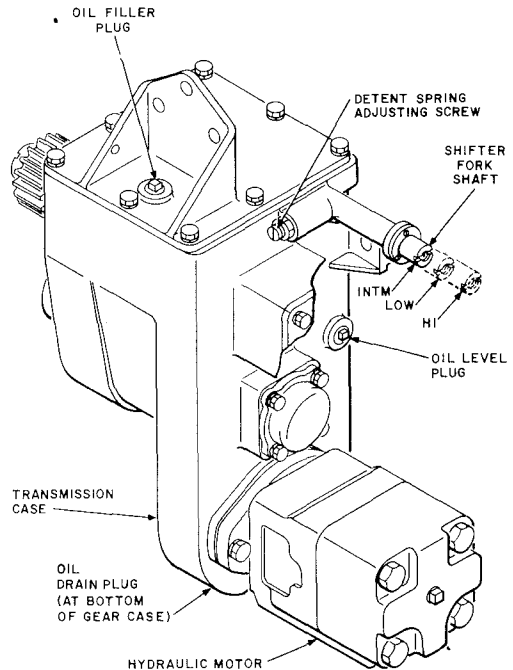

Fig. 5—AT-8111 Winch Hydraulic Drive
2.07 The AT-8111 Winch Hydraulic Drive is a heavy-duty, 3-speed transmission fitted with a high torque hydraulic motor that is operated by the truck hydraulic system.♦ The transmission is capable of transmitting sufficient torque not only for driving the winch in the forward direction but also for driving the winch against the automatic load brake. Ratios, winch line pulls, and winch line speeds which can be obtained with the hydraulic drive are given in Fig. 4. The AT-8111 Winch Hydraulic Drive is illustrated in Fig. 5.